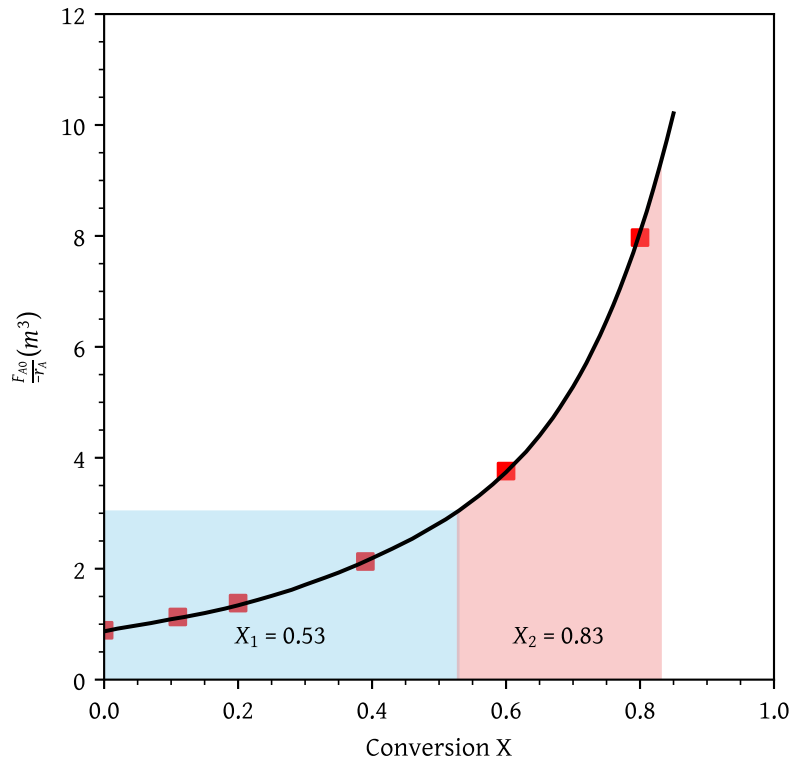

Figure 9: Conversion from a CSTR followed by PFR
- (g) A CSTR followed by a PFR (Figure 9).